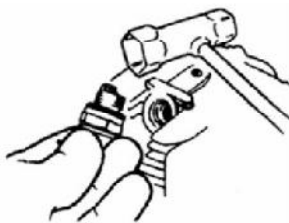

Fig.E15
1. Disconnect the spark plug lead and then use the spark plug wrench to remove the spark plug (turn counterclockwise to remove). See Fig.E15